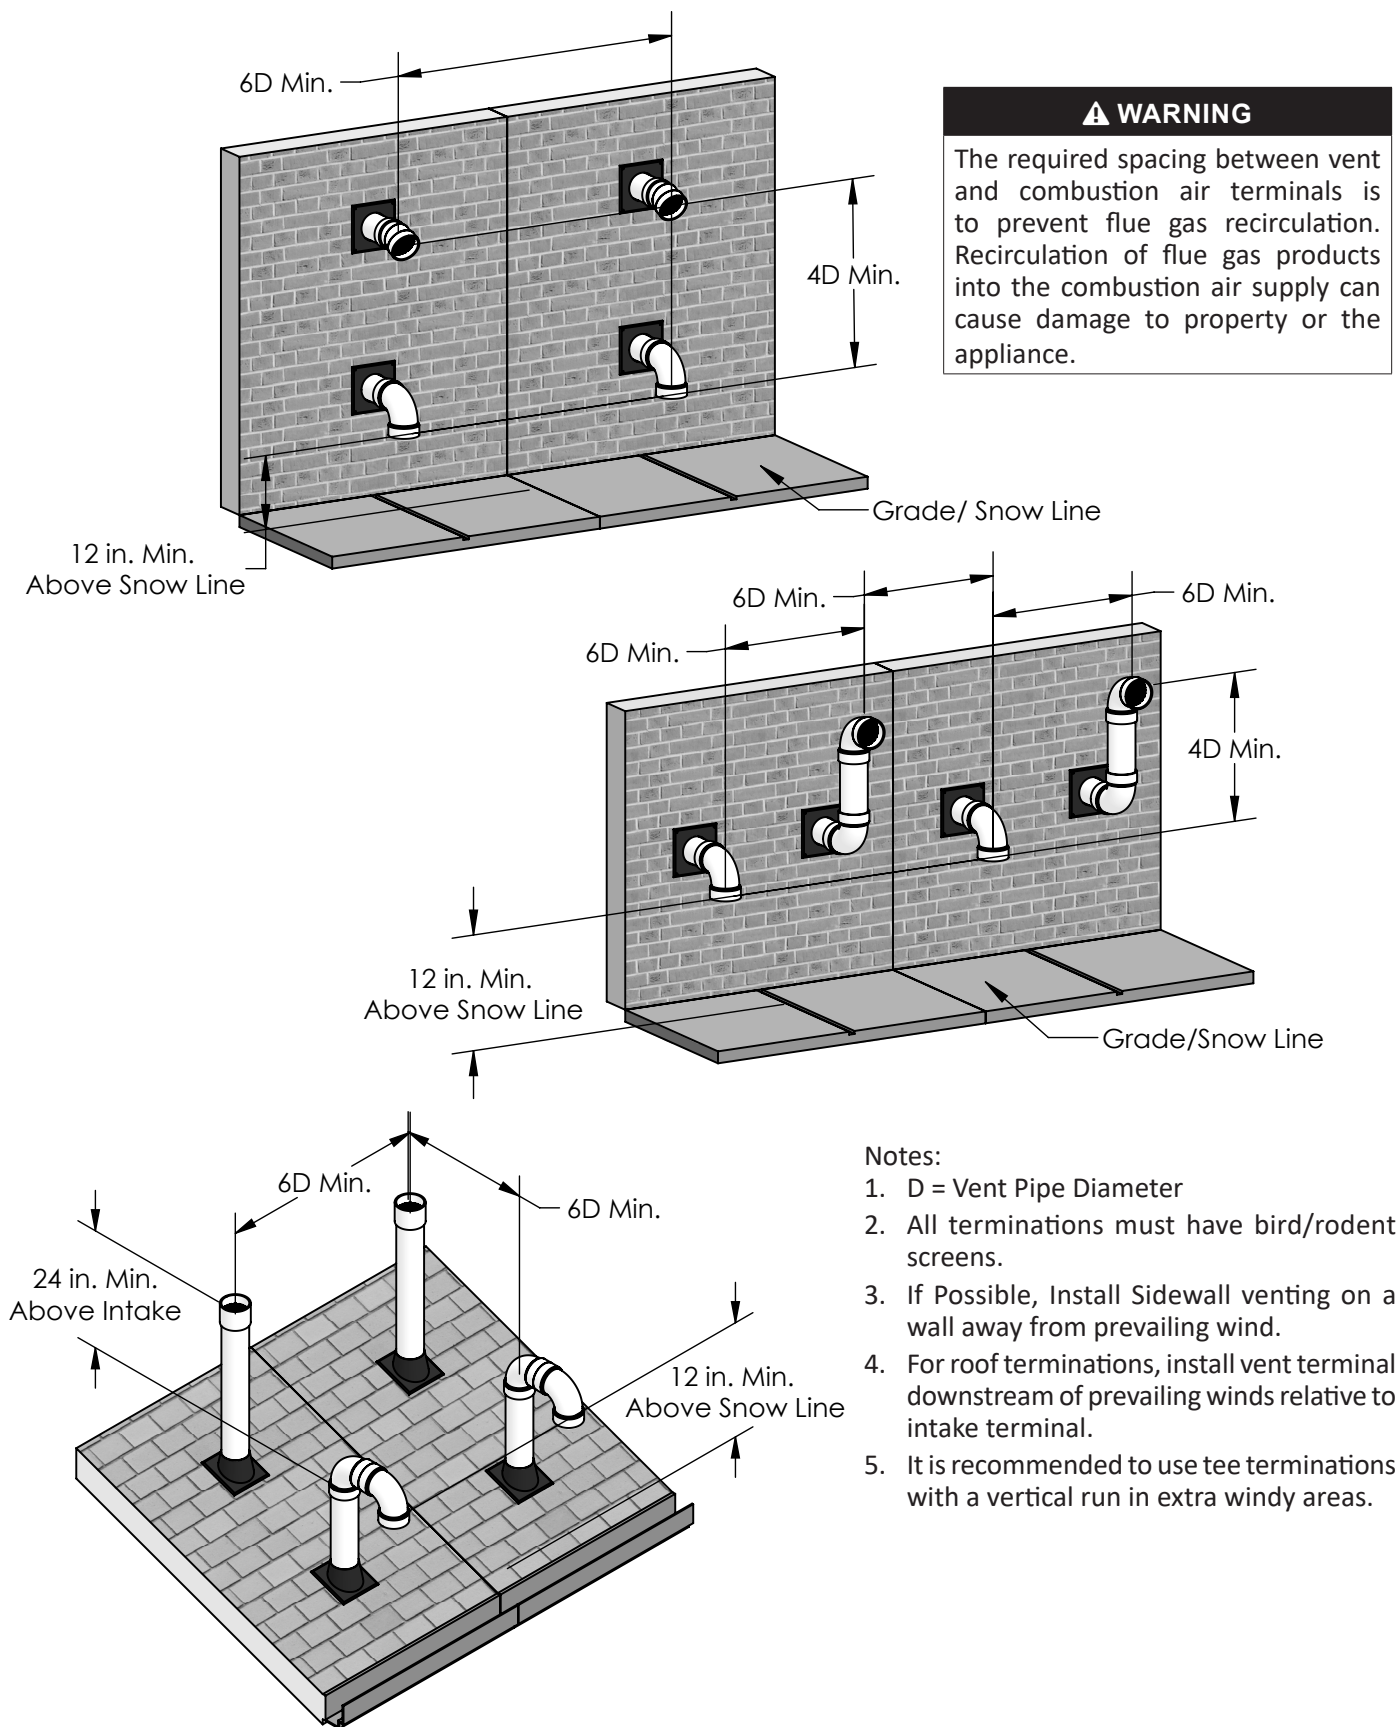

Figure 9: Multiple Appliance Direct Vent Termination
- Multiple appliance vent terminations are shown in Figure 9.
- Multiple appliance combustion air terminations are shown in Figure 9.